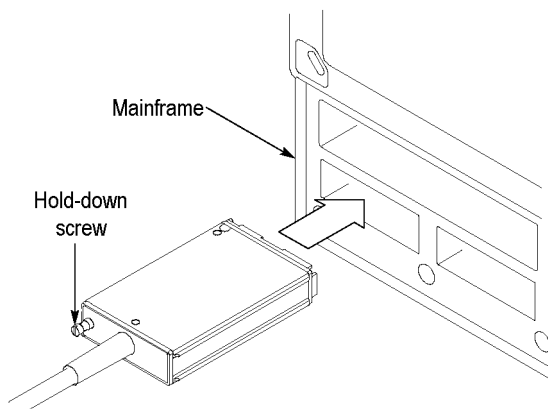

Figure 3: Extender cable connection to the mainframe
2. Install the TekConnect Probe Interface Module Extender Cable connector into any of the small sampling module compartments on the front panel of the mainframe. (See Figure 3.)